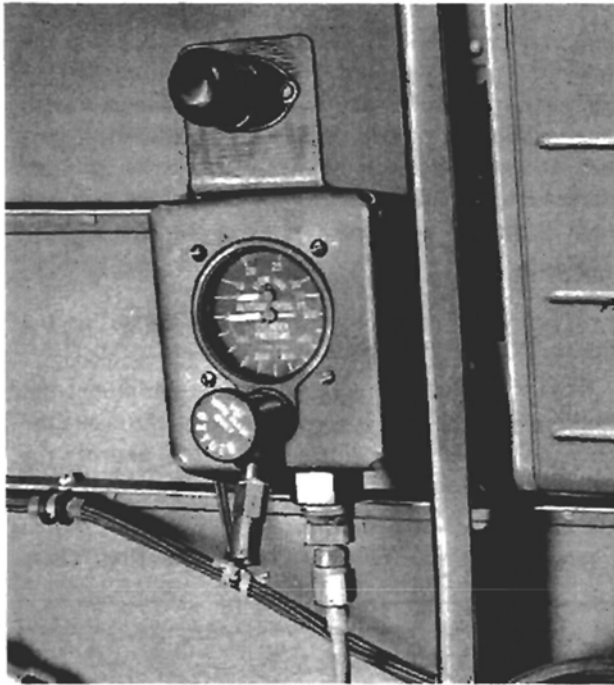

Figure 46—Rear Gunner's Oxygen Regulator
(2) *Gunner's Compartment.*—The gunner's station is provided with a type A-9 low pressure oxygen regulator (Figure 46). The gunner shall check for proper connection of his oxygen mask before flight is made.
- (4) Check oxygen mask fittings on regulator (Figure 46).